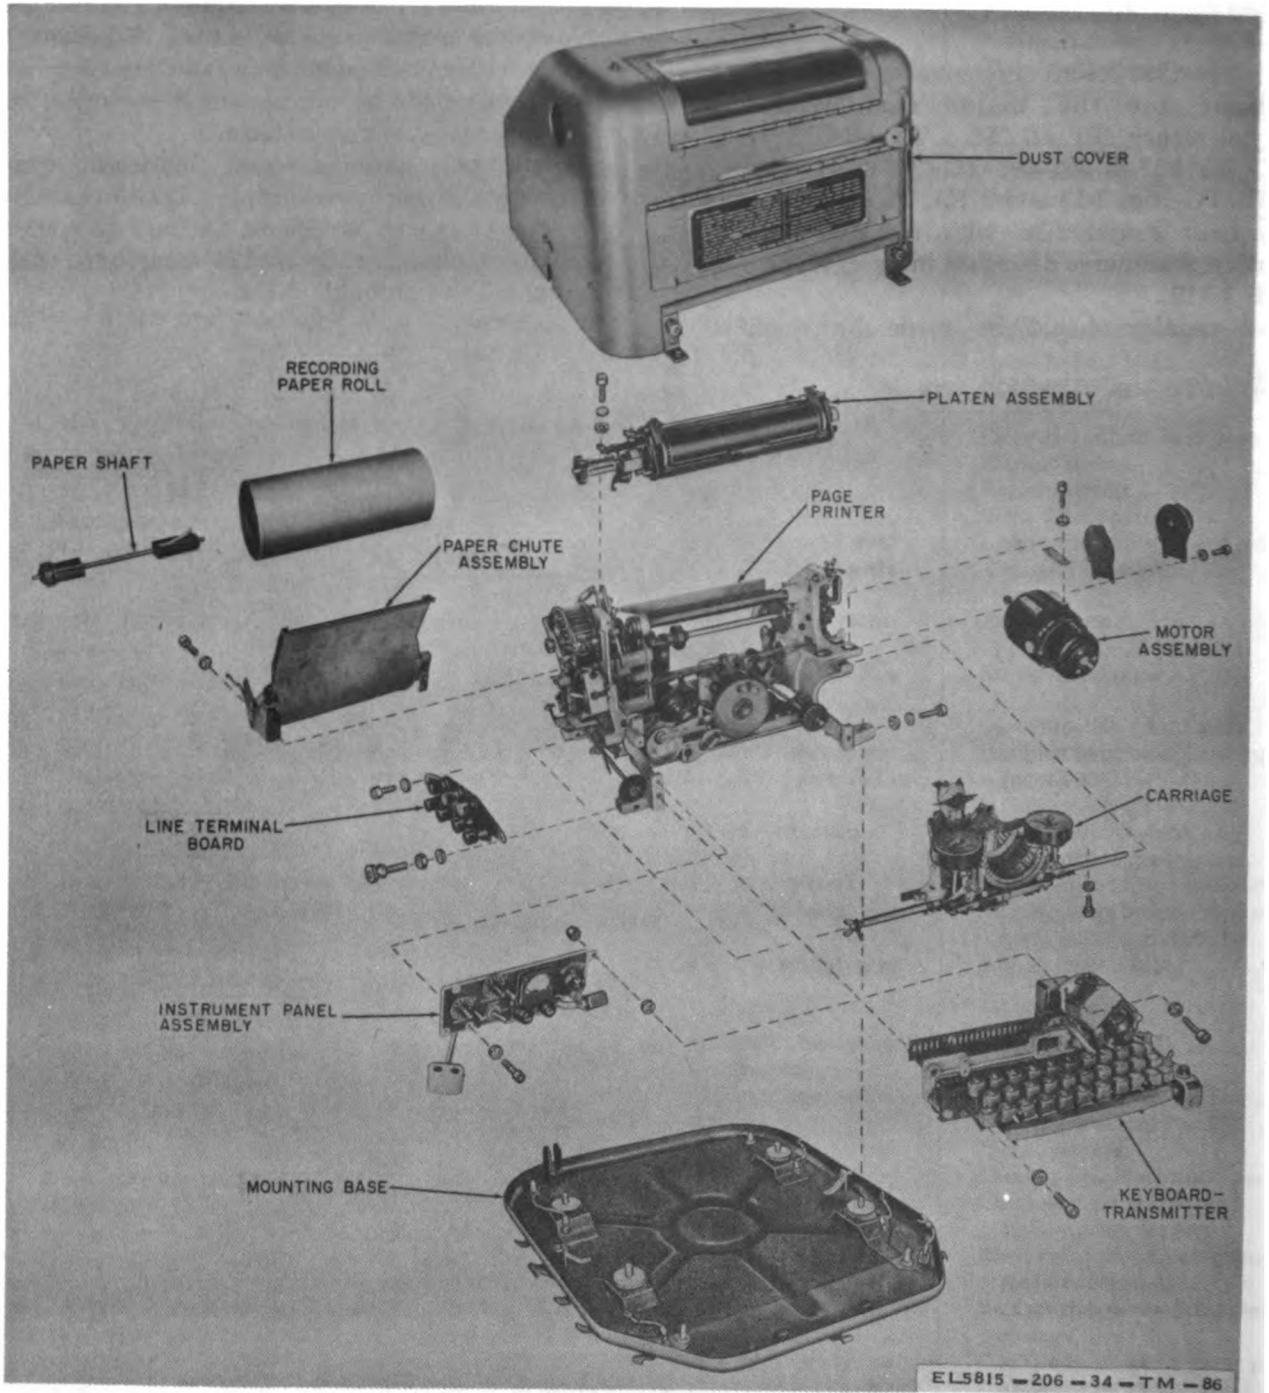

Figure 3-13. Components of Teletypewriter TT-4 (\*)/TG, except for motor, TT-335/TG and TT-537/G, and A1 Terminal Box Assembly TT-698 (\*)/TG.
**a. This section describes removal and replacement procedures for the major components of teletypewriters TT-4B/TG, TT-4C/TG, TT-335/TG, TT-537/G, TT-698/TG, TT-698A/TG, TT-698B/TG, (fig. 3-13 and 3-15). These procedures are used in conjunction with disassembly and reassembly procedures described in paragraphs 3-33 through 3-113.**
(fig. 3-13)